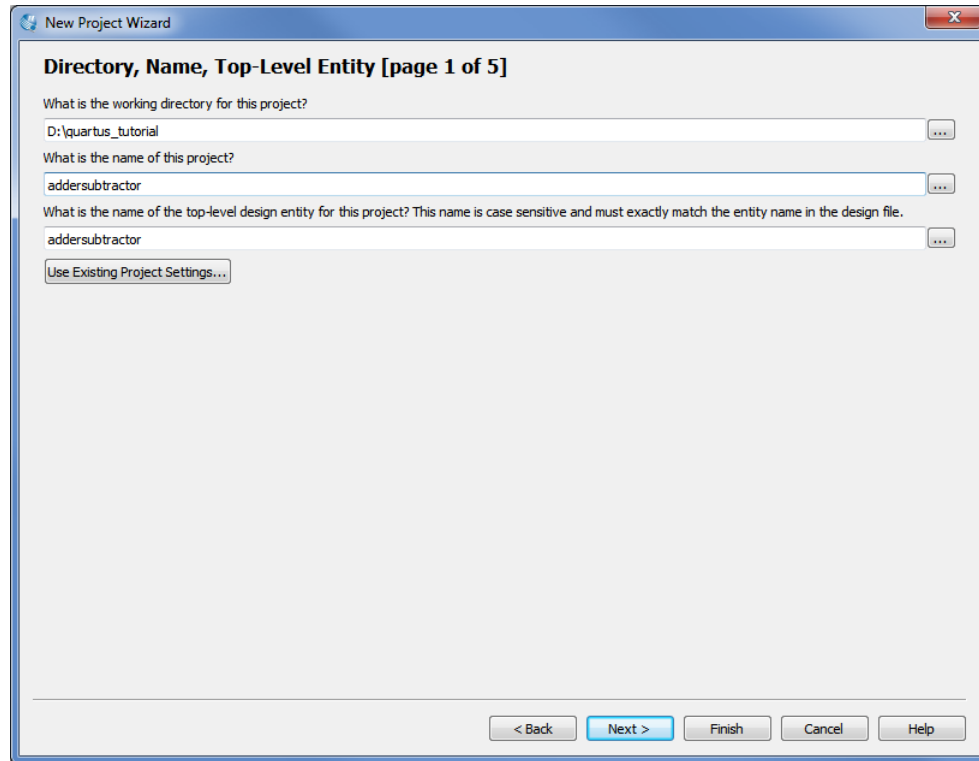

Figure 4: Creation of a new project.
1. Select File > New Project Wizard to reach a window that indicates the capability of this wizard. Press Next. This will bring up the wizard screen as shown in Figure 4.
2. Set the working directory to be *quartus_tutorial*; of course, you can use a directory name of your choice. The project must have a name, which is usually the same as the top-level design entity that will be included in the project. Choose *addersubtractor* as the name for both the project and the top-level entity, as shown in Figure 4. Press Next. Since we have not yet created the directory *quartus_tutorial*, the Quartus® II software displays the pop-up box in Figure 5 asking if it should create the desired directory. Click Yes, which leads to the window in Figure 6.
Note that the top Verilog module is called *addersubtractor* to match the name given in Figure 4, which was specified when the project was created. This code can be typed into a file by using any text editor that stores ASCII files, or by using the Quartus® II text editing facilities. While the file can be given any name, it is a common designers' practice to use the same name as the name of the top-level Verilog module. The file name must include the extension *v*, which indicates a Verilog file. So, we will use the name *addersubtractor.v*.